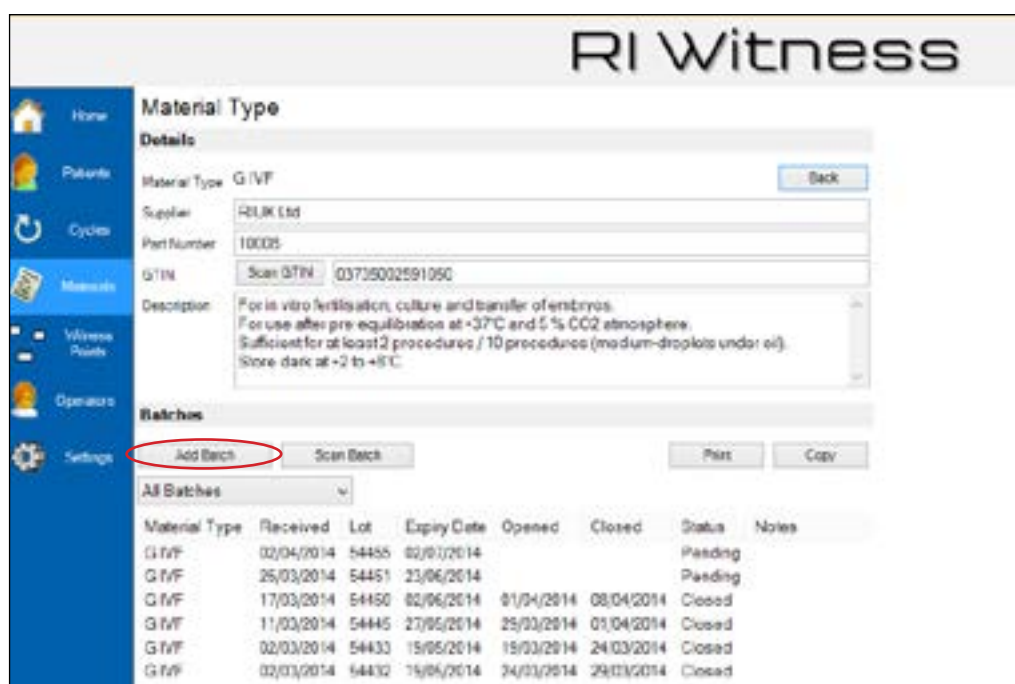

Figure 8-7 Listing all batches of a specific material type
2. Double click the material that is being processed to show the Batch Details page for that material. See Figure 8-7.